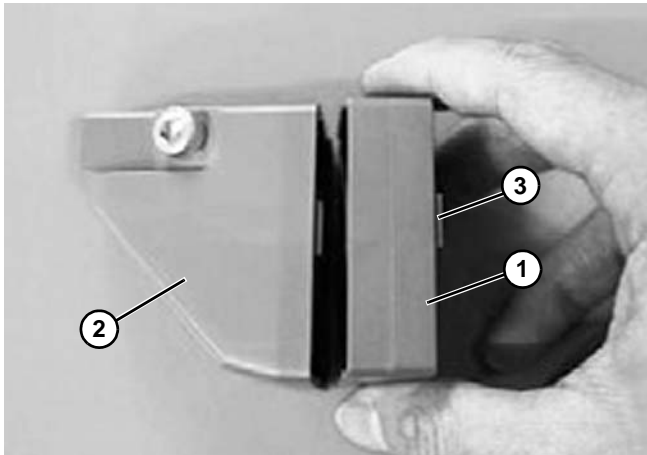

Figure 98
1. Attach the spacer (Figure 98, item 1) onto FGRF- 42x18V (Figure 98, item 2) and install correct length T-bolt (Figure 98, item 3).